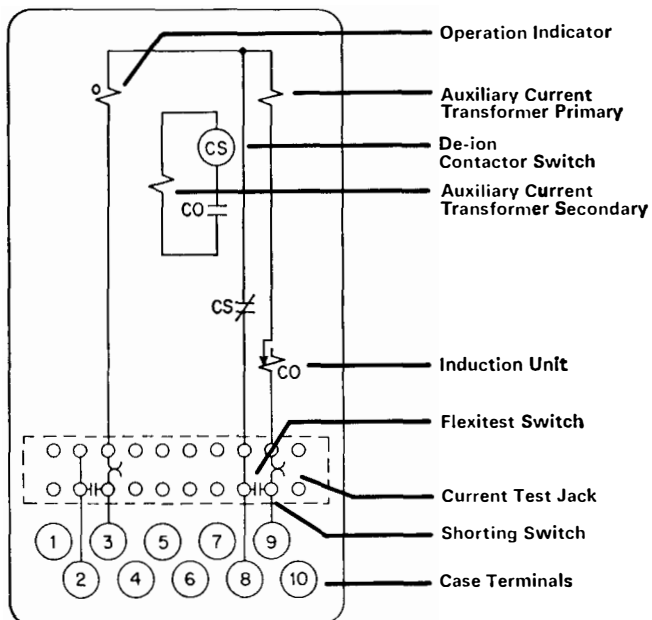

Fig. 10
As shown in figures 10 and 11, closing of the CO unit contacts energizes a De-ion® contactor switch (CS) whose contacts shunt the ac trip current through the breaker trip coil.
Burden of the auxiliary current transformer (figures 10 and 11) with 4 amperes applied is 4.6 volt-amperes with the CO contacts closed, and 5.7 volt-amperes with the contacts open.
Used in circuit opening type CO relays as shown schematically in figures 10 and 11. This scheme is applied where ac trip coils are used on the circuit breakers, energized by the line current transformers. When the CS coils energized by a small transformer located within the relay case, its normally closed contacts open to remove the by-pass around the breaker trip coil, thus tripping the breaker.